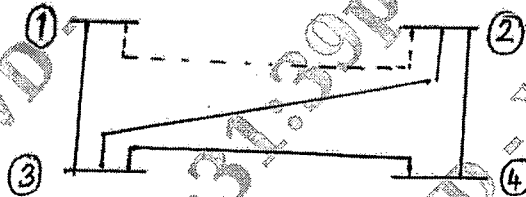

Fig. Q.1(c)
- c. The below Fig. Q.1(c) shows the one-line diagram of a simple four-bus system, Table Q.1(c) gives the line impedances identified by the buses on which these terminates. The shunt admittances at all the buses is assumed to be negligible.